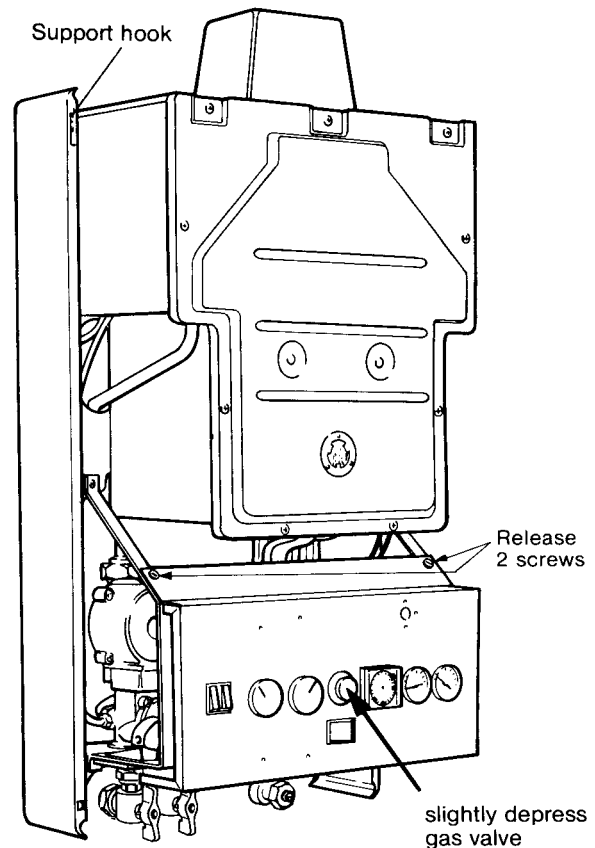

Fig. 28
8.4.2 To open controls fascia (fig 28 & 29)